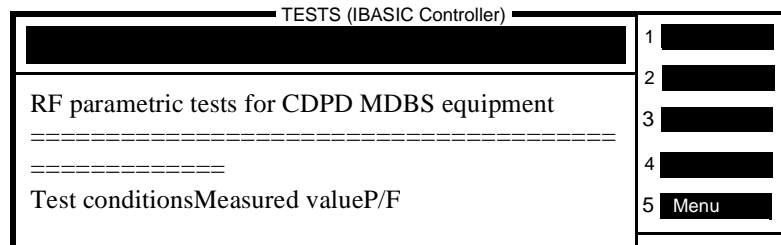

Figure 67
- b. From CALIBRATIONS menu, select (3) **GMSK Deviation Calibration**, an equipment cable-hookup screen appears.
- d. Press the k2 (**Continue**). Wait for the **GMSK Deviation Calibration** measured value to appear, figure 67 . WRITE DOWN the measured value for later use.